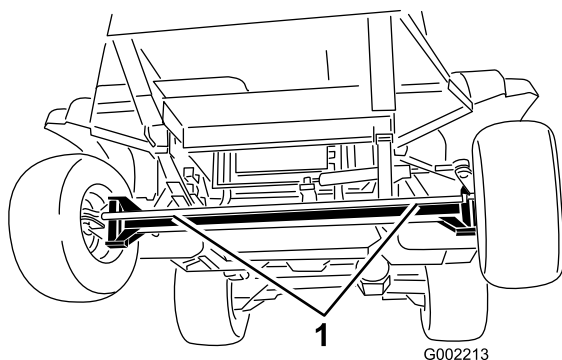
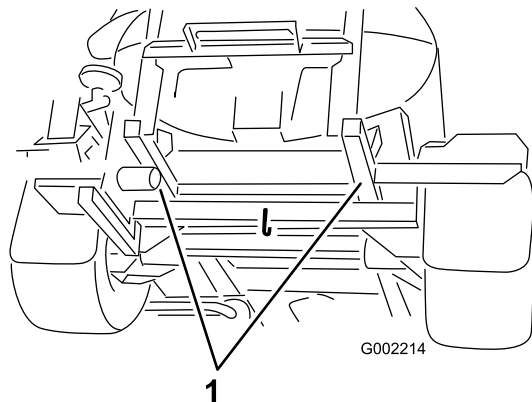

Figure 57
Figure 58
4. Affix a tow line to the frame; refer to the front and rear towing points (Figure 57 and Figure 58).